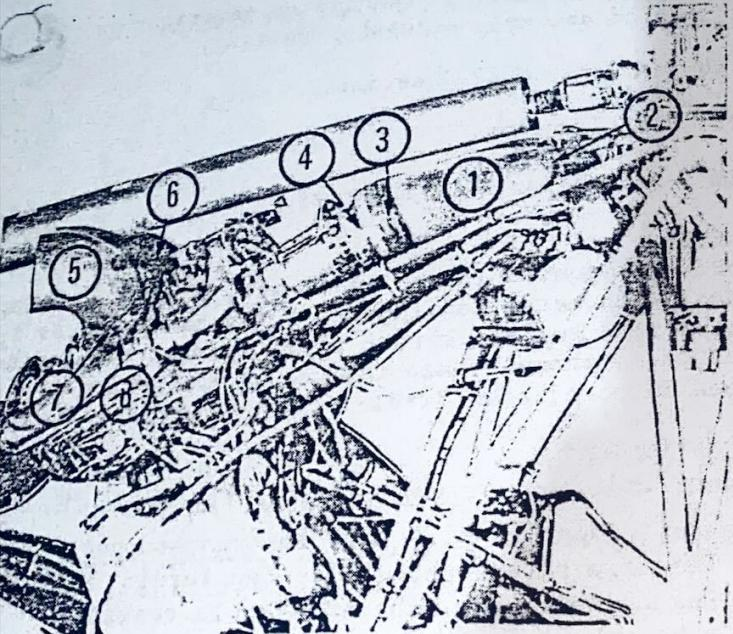

Figure 76-560-1. Turbine Engine and Air Induction and Exhaust System.
76-560-1. TURBINE ENGINE AIR INDUCTION AND EXHAUST SYSTEMS. (Figure 76-560-1)
c. Removal of the exhaust ejectors (Figure 76-560-1).